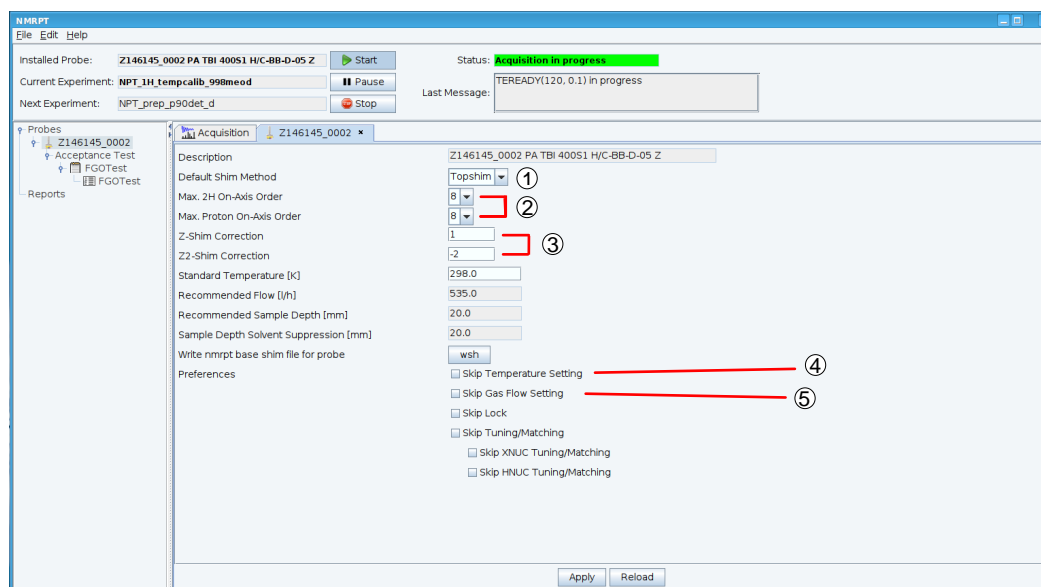

Figure 4-1: Probe Setup tab – Flow, Temperature and Shim options
Select **Skip Gas Flow Setting** (Figure 4-1 (5)) on Probe Setup tab to skip setting the gas flow by *NMRPT* for all experiments of all Inspection Lots of this probe as a default.
Select **Skip Temperature Setting** (Figure 4-1 (4)) on Probe Setup tab to skip setting the temperature by *NMRPT* for all experiments of all Inspection Lots of this probe as a default.
In *NMRPT* Probe Setup Tab (see 5.4.2 Probe Setup Tab) select the **Default Shim Method** (Figure 4-1 (1)) for this probe. The selection is applied to all Inspection Lots of the probe.
The `ordmax` parameter of *TopShim* defines an upper limit for the order of shim functions used by *TopShim*. In *NMRPT* Probe Setup tab multiple options (Figure 4-1 (2)) are provided to reduce the maximum shim orders according to this `ordmax` parameter.
*NMRPT* Probe Setup Tab provides a Z- and Z2-Shim Correction (Figure 4-1 (3)) to be set for a probe. The correction is applied at the end of the shim process during water